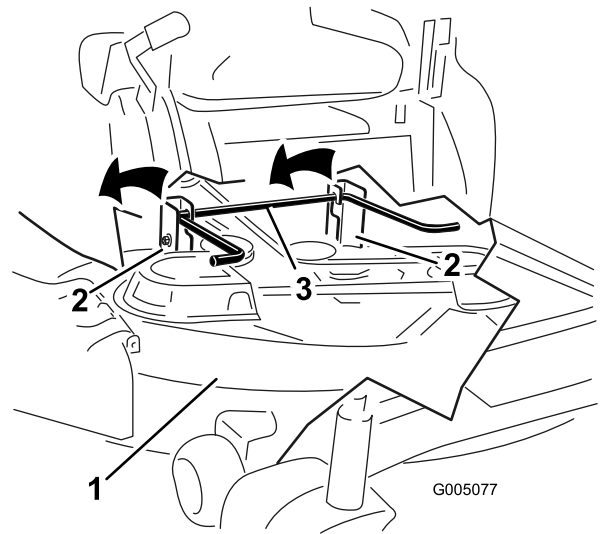

Figure 124
6. Lift the mower deck and hanger brackets clear of the rear lift rod and lower the mower carefully to the ground (Figure 124).